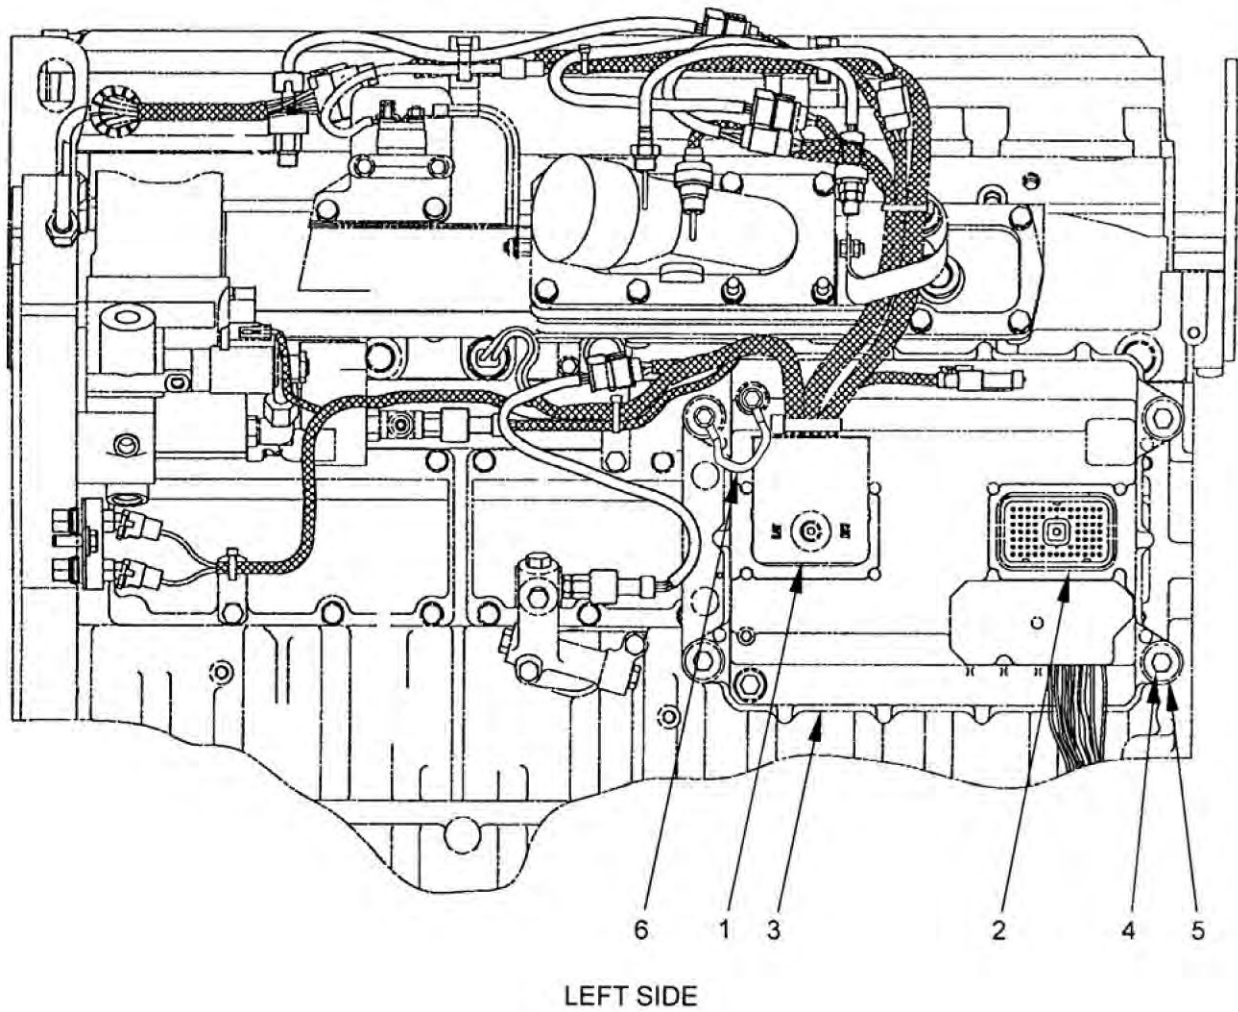

Figure 1. Engine Control Module.
4. Tag and disconnect engine harness connector ENG-P2/J2 (Figure 1, Item 1) and ECM J1 to EMCP harness connector ENG-P1/J1 (Figure 1, Item 2) from engine control module (Figure 1, Item 3).
5. Remove four bolts (Figure 1, Item 4), washers (Figure 1, Item 5), ground strap (Figure 1, Item 6), and engine control module (Figure 1, Item 3).
1. Install engine control module (Figure 1, Item 3), ground strap (Figure 1, Item 6), four washers (Figure 1, Item 5), and bolts (Figure 1, Item 4).
2. Install ECM J1 to EMCP harness connector ENG-P1/J1 (Figure 1, Item 2) and engine harness connector J2/P2 (Figure 1, Item 1). Torque ENG-P1/J1 and ENG-P2/J2 ECM connectors to 55 +13.0 -4.0 lb•in (6.0 +1.5 -0.5 N•m)